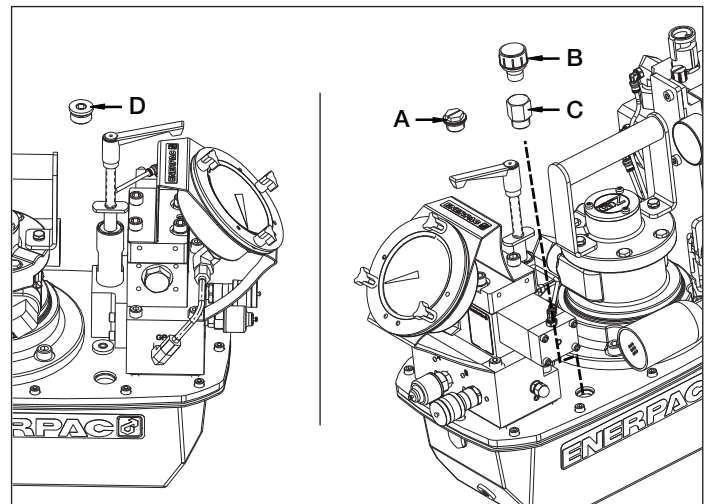
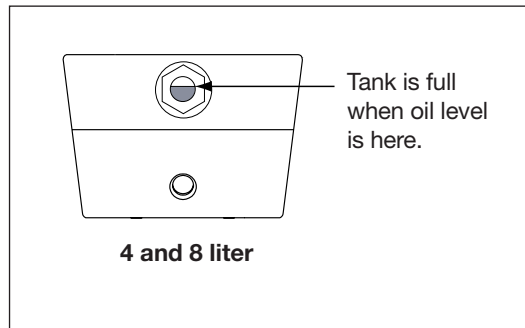

Figure 2, Oil Fill Plug and Breather Cap
Figure 4
4.1 Breather Cap and Oil Fill Plug (See Figure 2)
Check the oil level of the pump prior to start-up, if necessary add oil by removing the SAE #10 plug from the cover plate (see Fig. 2). The reservoir is full when the oil level reaches the top of the sight glass. (Fig. 4).